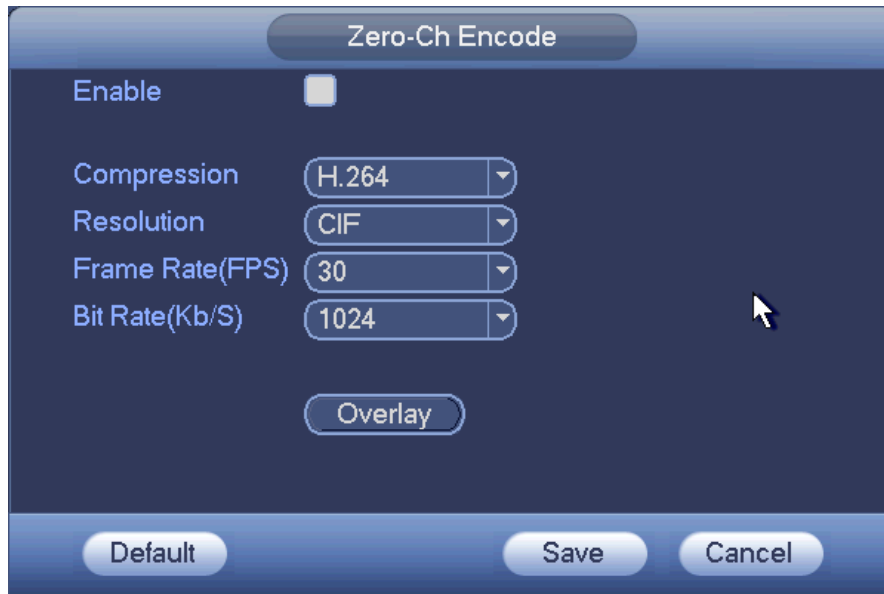

Figure 4-67
- Zero-Channel Encoding (Multiple-Preview) : Click Setup button, you can go to the following interface. See Figure 4-67. Here you can enable and set zero-channel encoding function so that you can view several video sources at one channel.